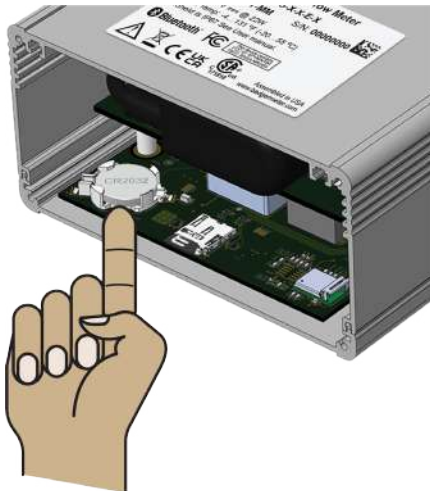

Figure 23: Remove the coin battery
- a. Remove the coin battery by prying the bottom of the battery upward, releasing the battery from the holder. Refer to Figure 23 below.